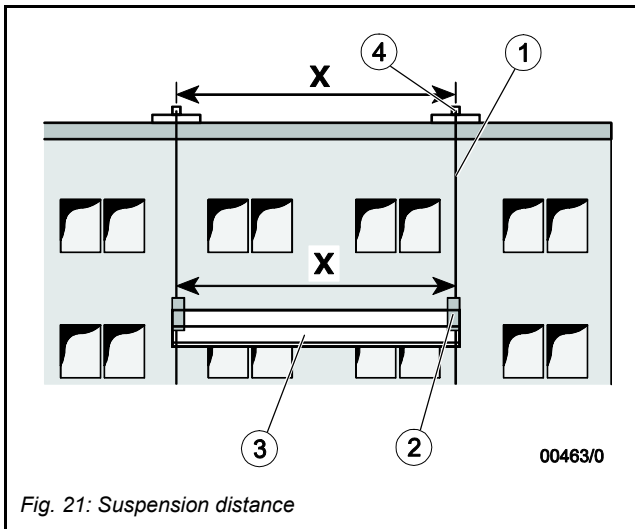

Fig. 21: Suspension distance
- Ensure that the anchor points of the wire rope are directly above the position of the hoists (Fig. 21).
- (1) Check that wire rope tip is welded round.